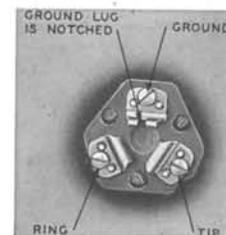

FIG. 12—CONNECTIONS FOR KS-8420 AND KS-8421 JACKS
9.03 JACKS AND PLUGS FOR SHIPS, BOATS, AND TRAINS—CONNECTIONS (See Figs. 12 and 13.)
4. Connect wire as shown in Fig. 12.